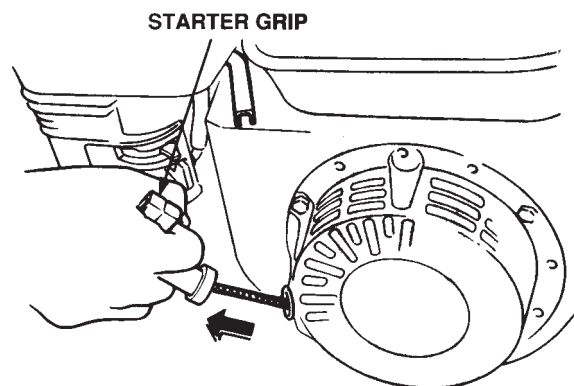

Figure 13. Starter Grip
5. Grasp the starter grip (Figure 13) and slowly pull it out. The resistance becomes the hardest at a certain position, corresponding the compression point. Rewind the rope a little from that point and pull out sharply.